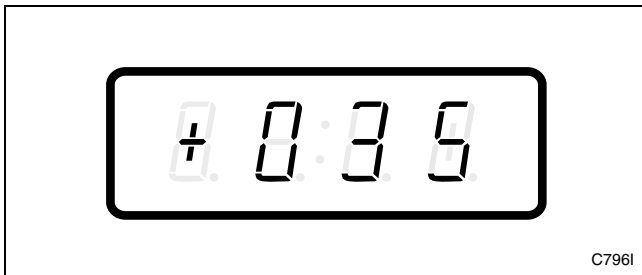

Figure 133
3. Press the LOW TEMP (+) or the NO HEAT (-) keypad to scroll through the programmable options until “+035” appears in the VFD. Refer to *Figure 133*.